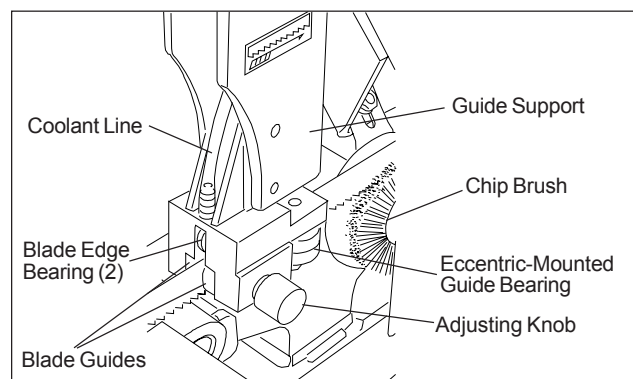

Figure 19: Carbide Blade Guide Replacement
7. Adjust the bearings on the upper edge of the blade until they just contact the blade (see figure 19).
## Replacement of Carbide Blade Guides (see figure 19)
## Replacement of Guide Bearings (see figure 19)